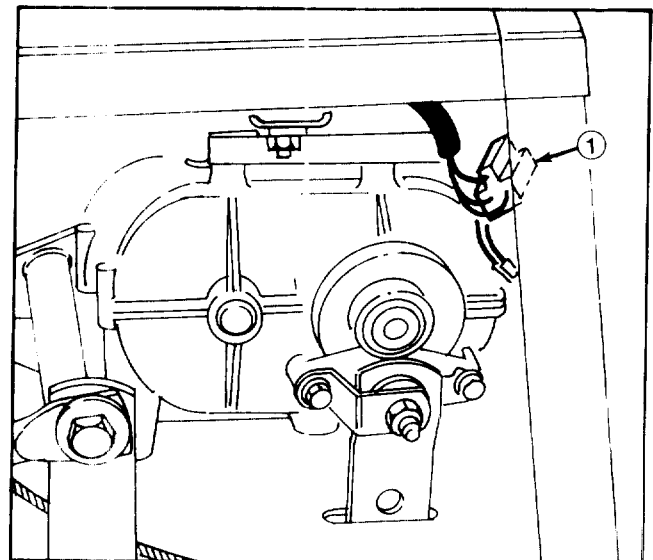

Figure 31
3. Push module connectors together to assure connection (Fig. 31).